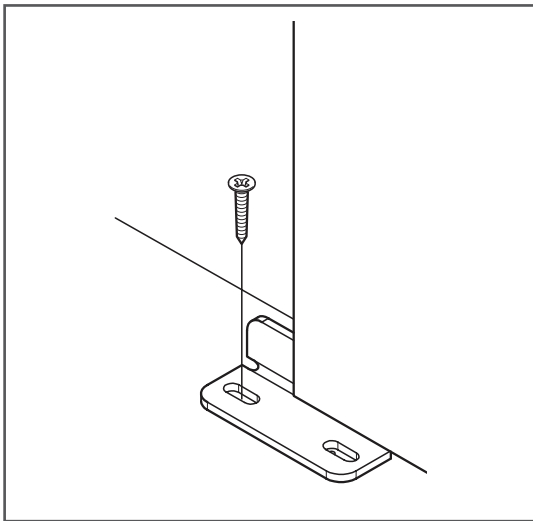

Figure 7
13. Position the Door Guide part way into the groove in the bottom of the door (Figure 7).